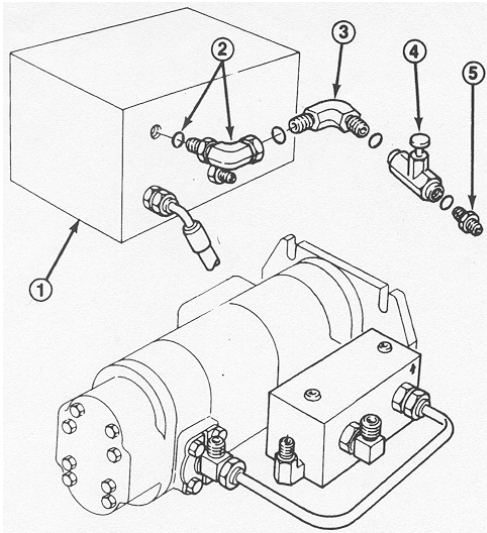

Figure 8
4. Install the 90 degree fitting and the O-ring into the top left rear port in the PTO manifold (Fig. 8).
5. Assemble the regulator valve, 90 degree swivel fitting, straight fitting and O-rings (Fig. 8).
6. Screw the swivel fitting into the 90 degree fitting, installed in step 2 (Fig. 8).